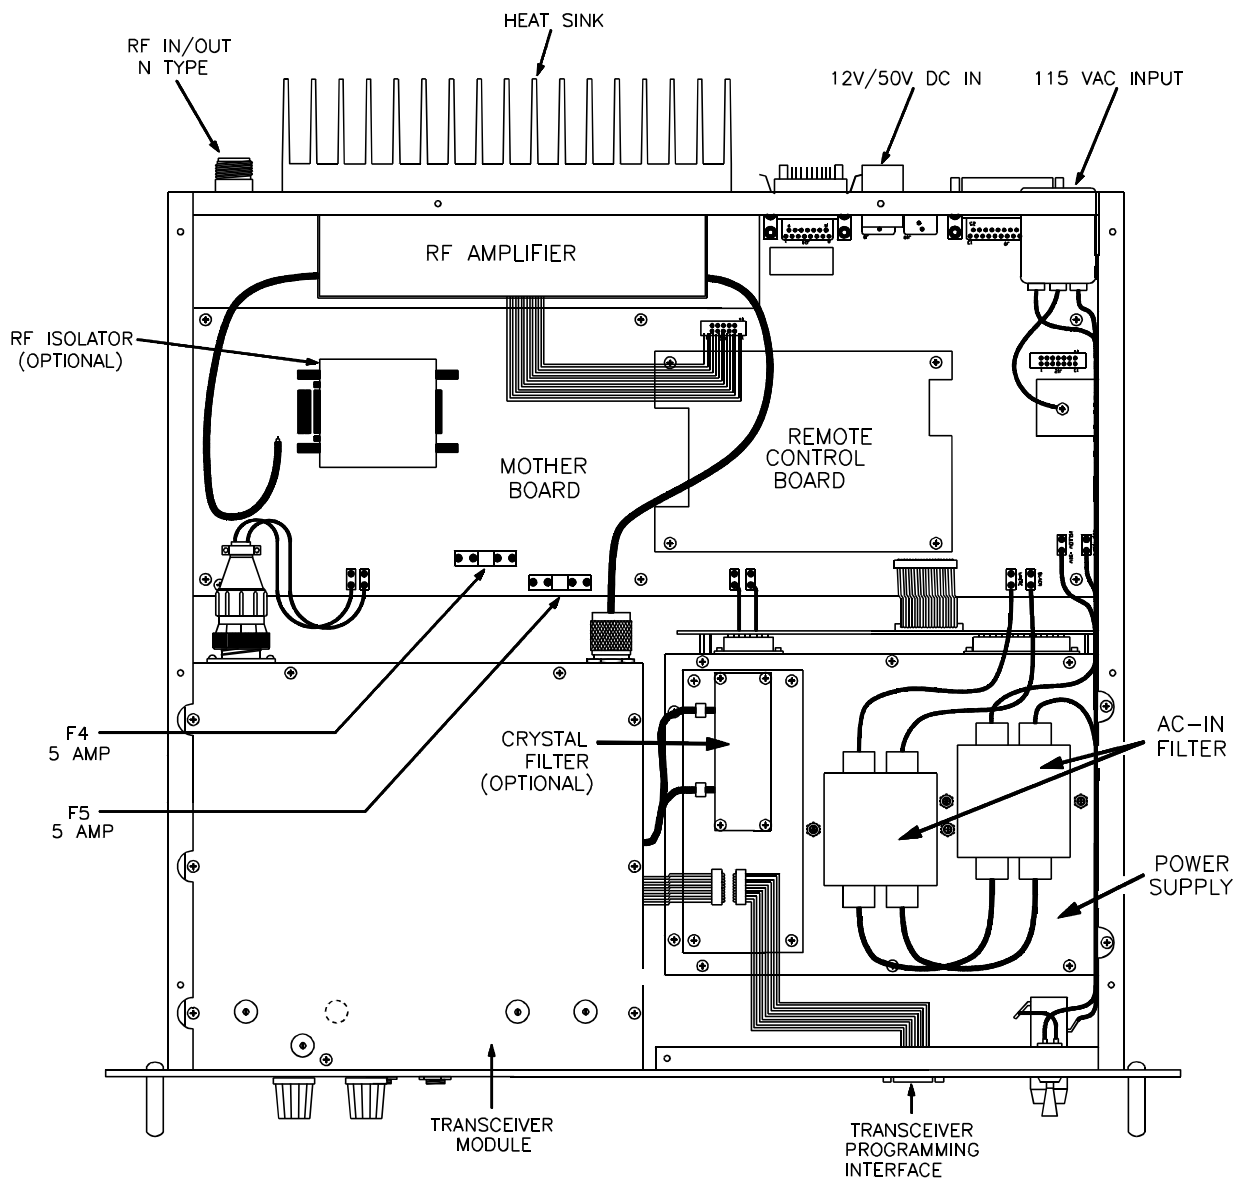

Figure 2-1 Single Channel Transceiver - Internal View
## 2.2 DISASSEMBLY/ASSEMBLY (Refer to Figure 2-1)
- (1) Remove and retain twelve screws securing top dust cover to the 19" rack chassis.
- (2) Please note the location of the three longer screws which travel through the heatsink shims rivetted to the inside of the top cover.
- (3) Lift cover clear of chassis to expose internal view of transceiver as shown in Figure 2-1.
- (1) Remove dust cover as described in paragraph 2.2.1, remove top cover of transceiver module.
- (2) Disconnect the two crystal filter co-axial cable leads for jumper J2/P3 on the Rx/Tx module A1, located in the transceiver module.
- (3) Remove and retain four screws securing Memory Set Board, Module A5A1 "piggy back" to the standoffs on the power supply cover. (See Figure 2-1 for location).